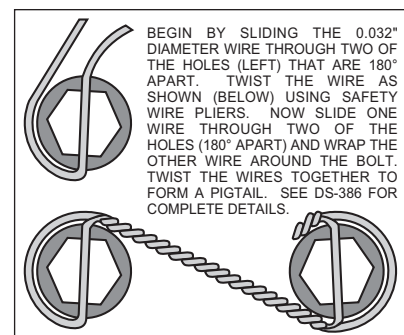

Figure 4. Safety Wire Diagram
- Attach rotor adapter (8) to rotor (9) using six bolts (10). Torque bolts (10) to 180 **in-lb**. Safety wire bolts (10) using standard 0.032 inch diameter stainless steel safety wire as shown in Figure 4. Please refer to Wilwood's data sheet DS-386 (available at [www.wilwood.org/ds386.pdf](http://www.wilwood.org/ds386.pdf)) for complete safety wire installation instructions. **NOTE:** The flat side of the rotor (8) lugs face toward the rotor adapter (9) with the dished side of the rotor adapter (8) facing away from the rotor (9).
- Mount the adapter/rotor assembly (8 and 9) to the hub (5) using six bolts (11). Torque bolts (11) to 22 ft-lb. Safety wire bolts (11).
- Pack the small outer bearing cone (12) with high temperature disc brake bearing grease and install into front of hub (5). Slide the hub/rotor assembly (5 and 9) with outer bearing cone (12) onto the spindle. Secure using stock washer, adjusting nut and nut locking device.
- Install the dust cap (15) onto the hub (5). Friction created by the o-ring (14) on the dust cap (15) keeps it from unscrewing. The O.D. of the existing spindle washer may be larger than the I.D. of the dust cap (15) not allowing it to seat against the hub face. Therefore, use the spindle washer (13) supplied with the kit instead of the stock washer.
- **NOTE:** Please reference the caution statement at the beginning of the assembly instructions. With the bleed screws pointing up, mount the caliper (16) onto the caliper mounting bracket (1) using lock washers (17) and bolts (18). Finger tighten. View the rotor (9) through the top opening of the caliper (16). The rotor (9) should be aligned in the center of the caliper (16). If not, adjust the caliper (16) by using 0.032 inch thick shims (19) placed between the caliper mounting bracket (1) and the caliper (16). Add as many shim washers (19) as necessary to achieve the correct alignment. Always use the same amount of shims on both the top and bottom caliper mounting bolts (18). Finger tighten and recheck alignment, adjust as necessary. Apply red *Loctite*® 271 to bolt threads (18) and torque to 30 ft-lb. Safety wire caliper bolts (18).
- Install the disc brake pads (20) into the caliper (16). Secure the disc brake pads to the caliper utilizing cotter pin (21).